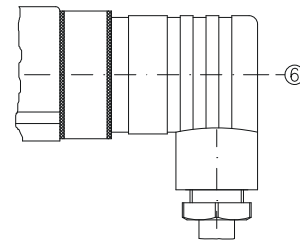

Fig. 10
- ⚡ Plug the cable socket ② on the connector ① and tighten the central screw ⑥ (→ Fig. 10).